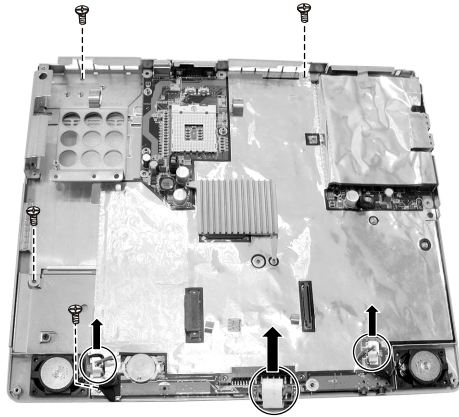

Figure 2-22 Remove the system board ASSY
4. Disconnect the touch pad cable, two speaker set's cords and remove four screws fastening the system board. Then lift the system board up. (Figure 2-22)